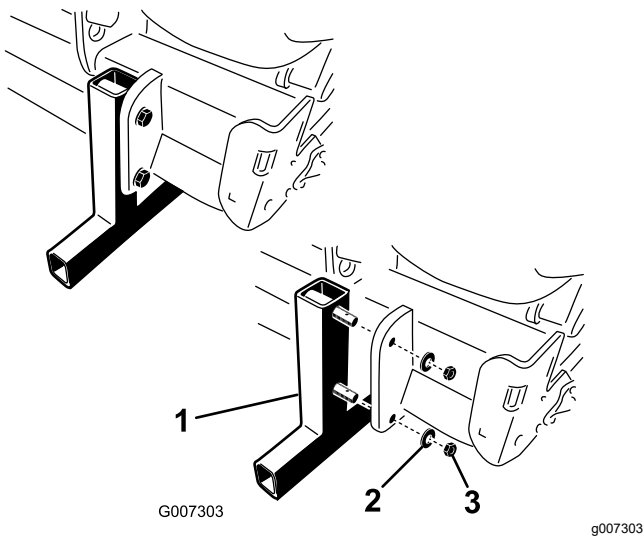

Figure 20
2. Remove the nuts and the lock washers securing the storage stands to the machine (Figure 20).
4. Insert the lynch pins (included in loose parts) into the stand pins for storage (Figure 20).